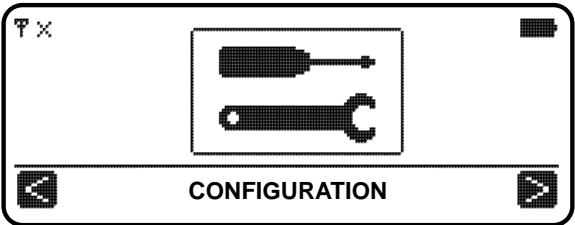

Fig. 18
- From the main screen, press  or  until you reach the "**CONFIGURATION**" (Fig. 18) menu;